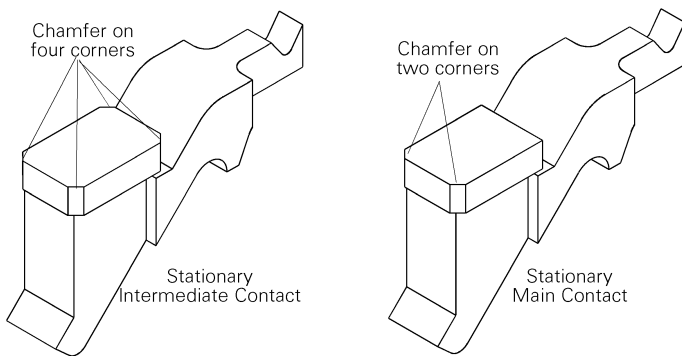

Figure 21. Stationary main and intermediate contact styles.
- c. Insert each replacement main and intermediate contact and secure with its contact spring. Note that main and intermediate contacts are differentiated by the number of chamfers on the corners of the contact surfaces, as illustrated in Figure 21. It is important that this distinction be observed when replacing the contacts.